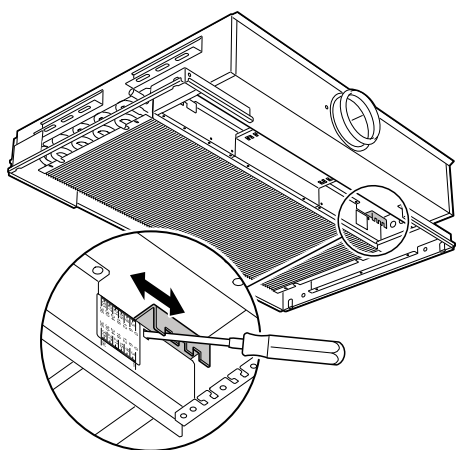

FIGURE 8. Adjust the nozzles to suit the needs of the zone.
- 2) Then use a screwdriver to adjust the nozzle settings. (See **FIGURE 8**).